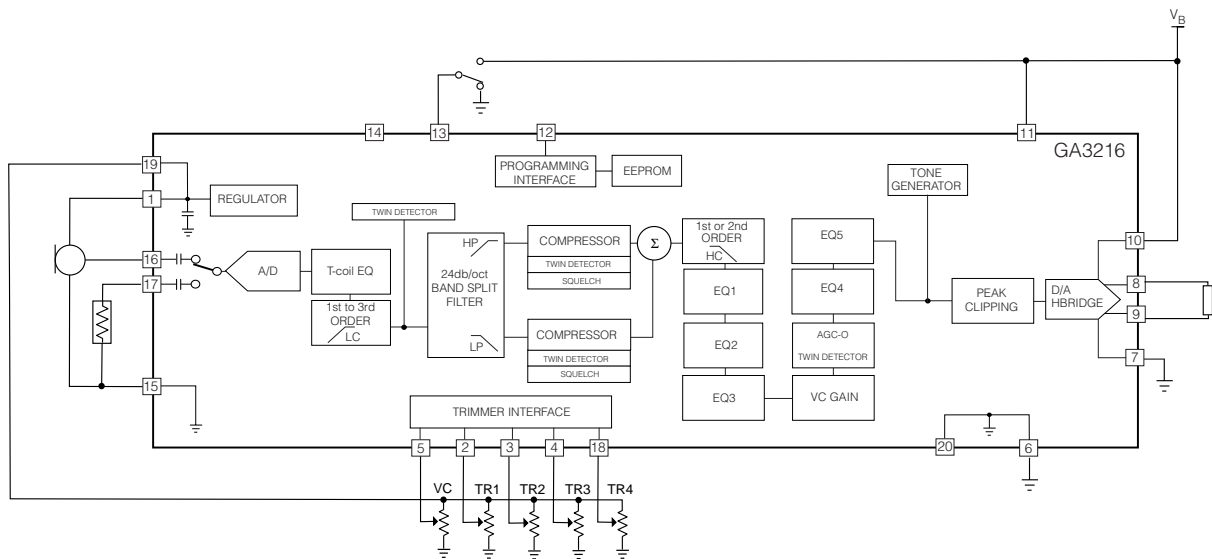

Fig. 1 GA3216 Schematic
2. Based on the schematic in Fig. 1 assemble the GA3216 based hearing instrument.